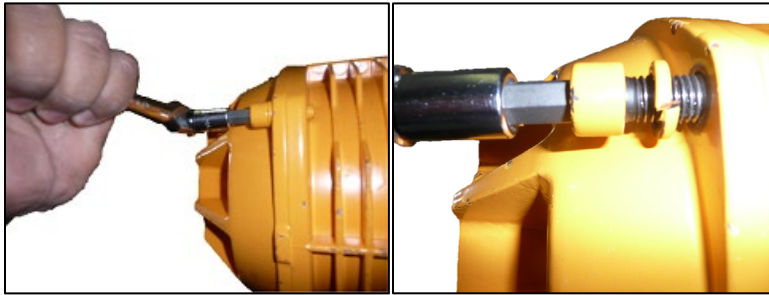

Figure 7.5.1
1. Loosen and remove socket head cap screw and spring washers securing the motor shell (see Figure 7.5.1).